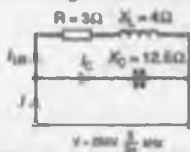

Figure 16.16
- 10 The following statements, taken connect to 2 significant figures, refer to the circuit shown in Fig. 16.16. Which are false?